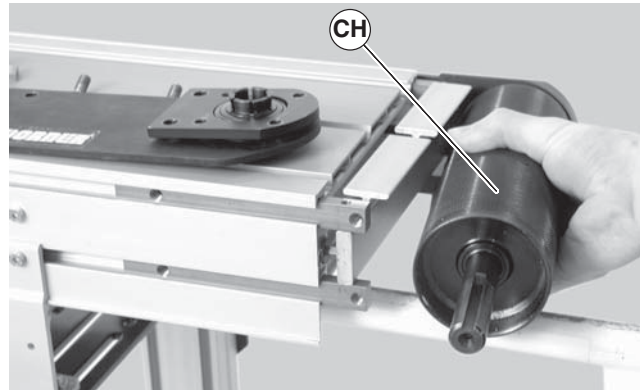

Figure 73
- Slide the drive pulley (Figure 73, item CH) out of the headplate on the opposite side.